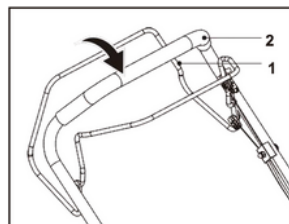

Fig. 13
1. Press the self-propel lever (1) forward and hold it against the upper handle (2) to engage the rear wheels (Fig. 13).
2. Release the self-propel lever (1) to disengage the rear wheel drive.